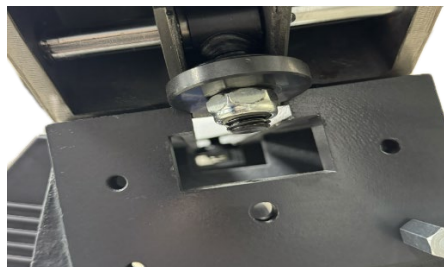

Figure 7-4: cam adjustment
If one of them does not tighten properly against the bed when the locking handle is tightened, adjust it as follows. (Figure 7-4 uses tailstock as example.)
2. Turn tailstock on its side, and tighten lock nut (Figure 7-4) to increase cam pressure, or loosen the nut to relieve cam pressure.